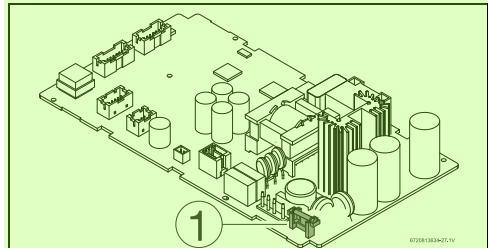

Fig. 38 Fuse position 14
► Check the fuse in the printed circuit board, for electrical 12 continuity, see fig. 38, [1].